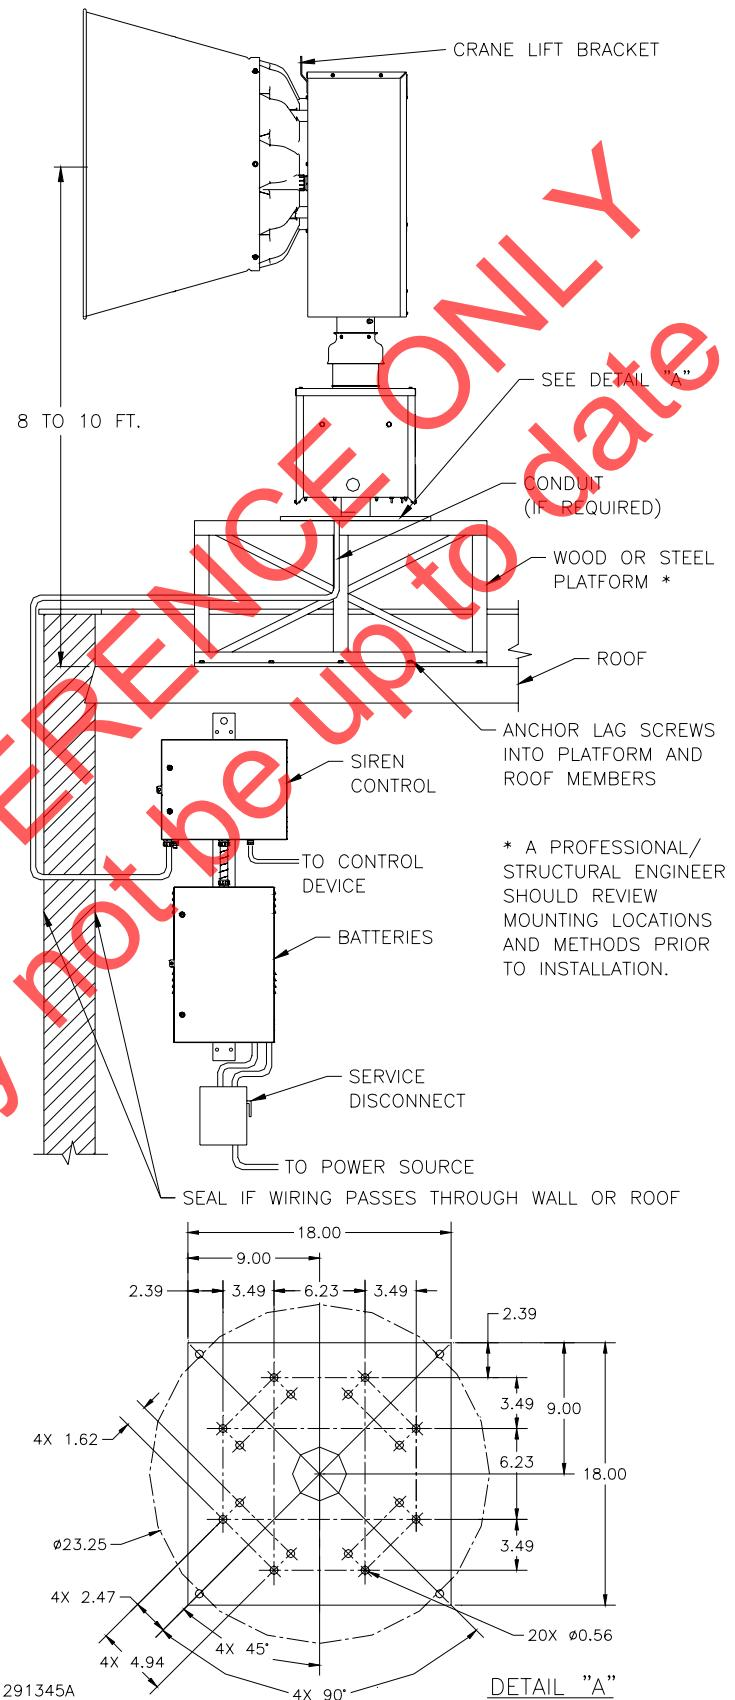
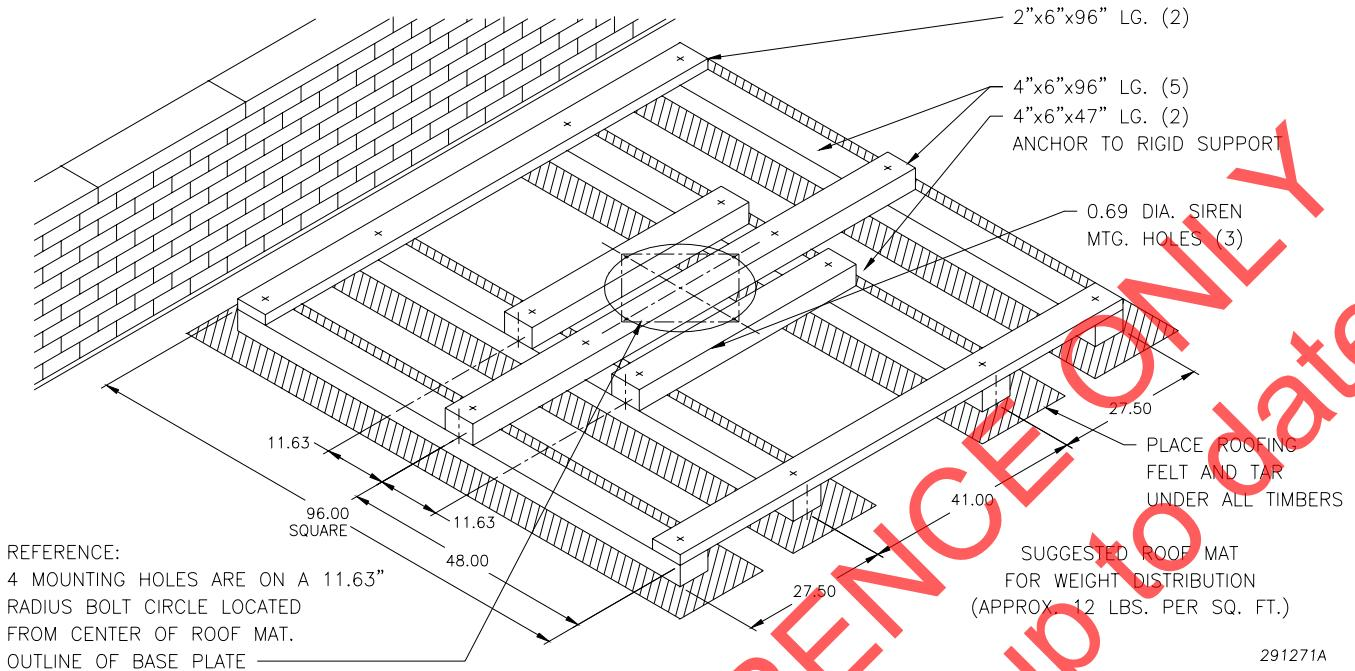

Figure 3-4. Typical Surface-mounted Siren Installation
Figure 3-5. Weight Distribution Mat Construction
This installation configuration is practical when the installation site is on a flat roofed building. The siren can be anchored directly to the roof, on a platform as shown in *Figure 3-4*, or on a weight distribution mat like the one shown in *Figure 3-5*.
This mat is required when the siren mounting surface is unable to support over 176 pounds per square foot (859kg per square meter). The mat shown in *Figure 3-4*
3. Anchor the siren to the mounting surface with 1/2" lag bolts or nuts and bolts, as appropriate through the mounting holes (one in each corner) in the siren base plate (see Figure 3-4, detail A). If the siren is mounted directly on a roof, (without a platform or weight distribution mat) be sure to install waterproof joints at the points where the mounting bolts pass through the roof so that water does not enter the building.